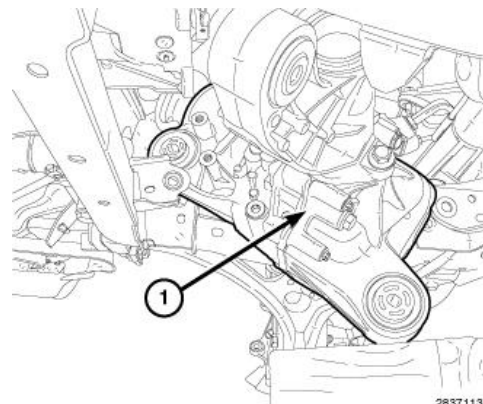

Figure 23 – Front Axle Removal
43. To remove the axle (1), tilt the front side of the axle downward while maneuvering the axle bracket. Then lower the axle and slide it to the RH side of the vehicle to clear the front axle cover mounting bracket (Figure 23).